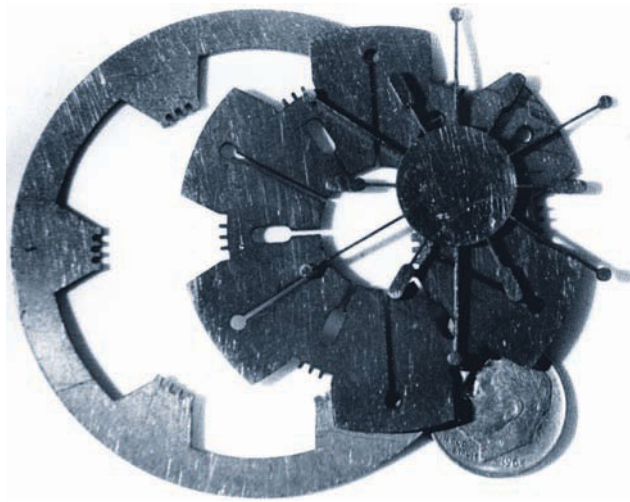

Figure 8.9 Nesting small parts
- a narrow kerf—Parts can be nested close together, which reduces waste of expensive materials, Figure 8.9.